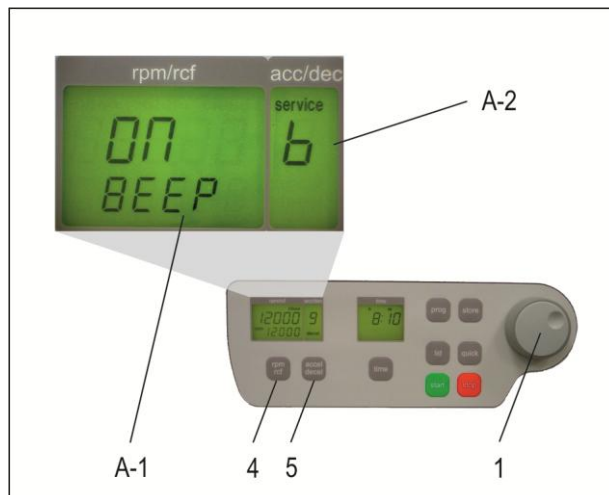

Figure 10
Proceed as illustrated, under point 1.8.1, to enter this program mode, press the key, "accel/decel" (5). In the display; "accel/decel" (A-2) flashes the word, "service". Select the letter, "b" with the adjustable knob (1). As a result, appearing in the display, "rpm/rcf" (A-1), the word "ON/BEEP". By pressing the key, "rpm/rcf" (4), the keyboard sound (On) or (Off) can be turned on, with the adjustable knob (1), (see Figure 10).